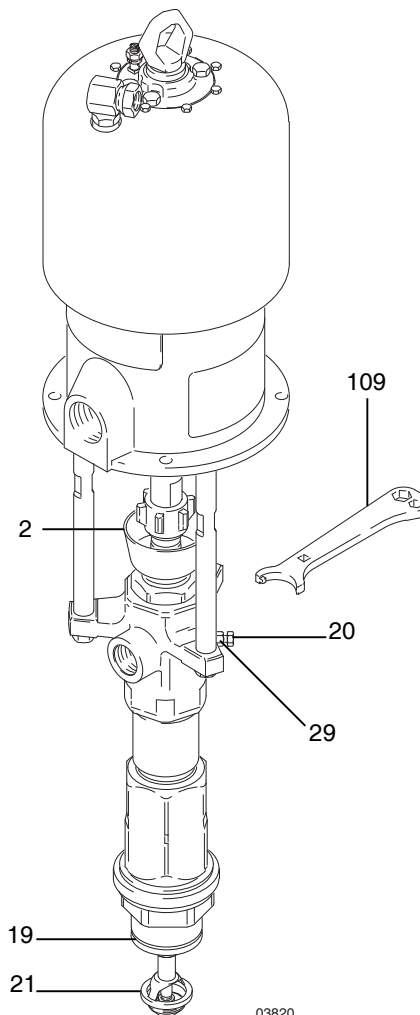

FIG. 3
8. If the pump fails to prime properly, open the bleeder valve plug (20) slightly. Use the bleed hole, on the underside of the valve body (29), as a priming valve until the fluid appears at the hole. See FIG. 3, page 8. Close the plug.